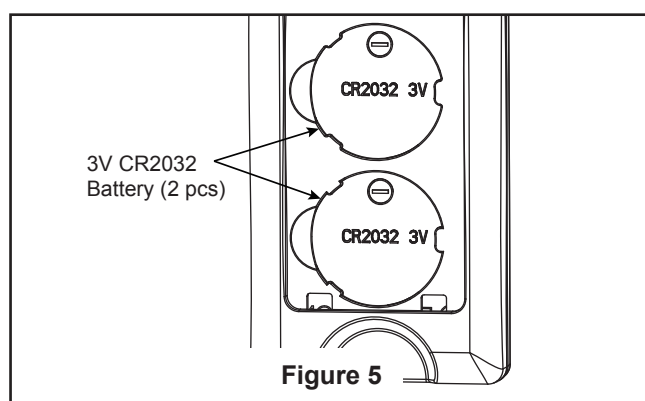

Figure 5
- ☐ 5. Assemble the light kit wire cover to the light plate assembly using the two key slots in the light kit wire cover. Replace the previously removed screw and securely tighten all three screws. (Figure 5)
- ☐ 5. Install two 3V batteries in hand-held remote transmitter, with fan power off. (Figure 5)